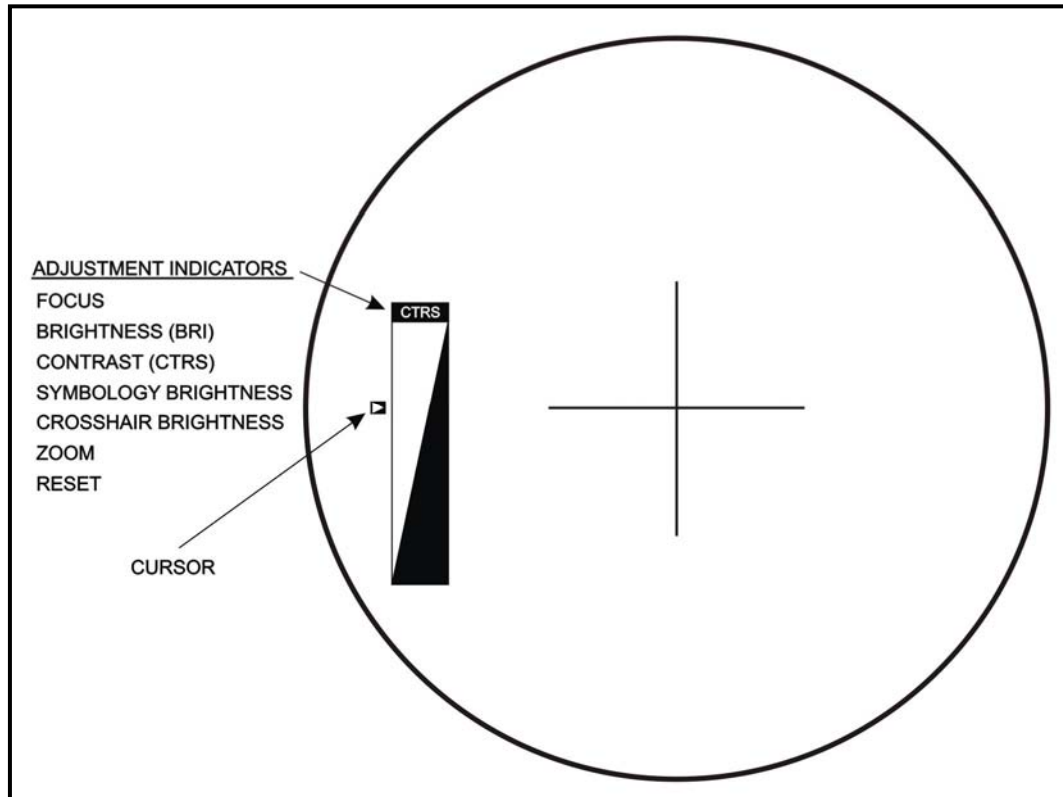

Figure 2-26. Adjustment indicators with cursor.
(3) **Adjustment Indicators.** These indicators give the gunner an indication of what adjustments he is making to the brightness, contrast, and focus of the NVS image; the brightness of the crosshairs; and the brightness of the TAS display symbols (Figure 2-26). The gunner can change the adjustments by using the BCF switch on the left handgrip control. The BCF switch is only operational with the TAS power switch in the ON position. NVS adjustments cannot be made until after the NVS has cooled down. Any change to the adjustments will be shown in the adjustment indicator box on the TAS display. A small cursor on the left side of the adjustment indicator box will indicate to the gunner whether he is increasing or decreasing the function selected for adjustment.